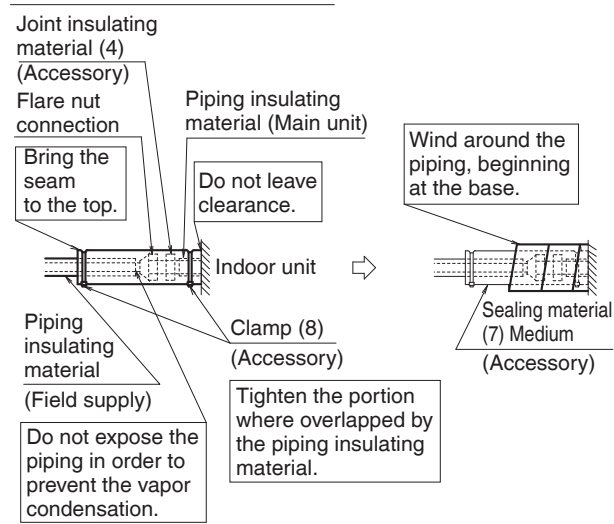
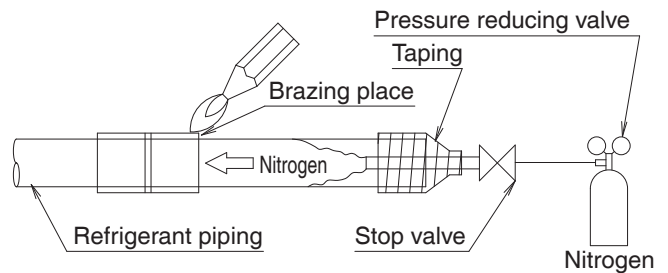

Fig. 11
Fig. 12
- After leak test, referring to **Fig. 11**, insulate both the gas and liquid piping connection with the attached joint insulating material (4) and (5) to prevent the piping from getting exposed. Then, tighten both the ends of insulating material with the clamp (8).
- Wrap the sealing material (Medium) (7) around the joint insulating material (4) and (5) (flare nut section), both the gas and liquid piping.
- Make sure to bring the seam of joint insulating material (4) and (5) to the top.
- Before brazing refrigerant piping, have nitrogen flow through the refrigerant piping and substitute air with nitrogen (NOTE 1) (**Refer to Fig. 12**). Then, carry out brazing (NOTE 2). After all the brazing works are finished, carry out flare connection with the indoor unit. (**Refer to Fig. 11**)